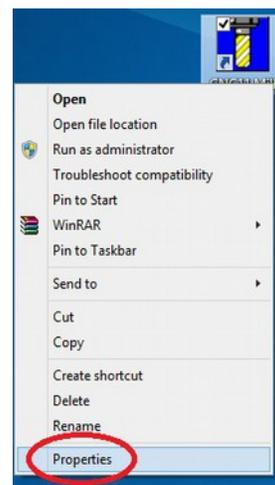

Figure 3.3.3
4. Select **properties** as seen in Figure 3.3.3